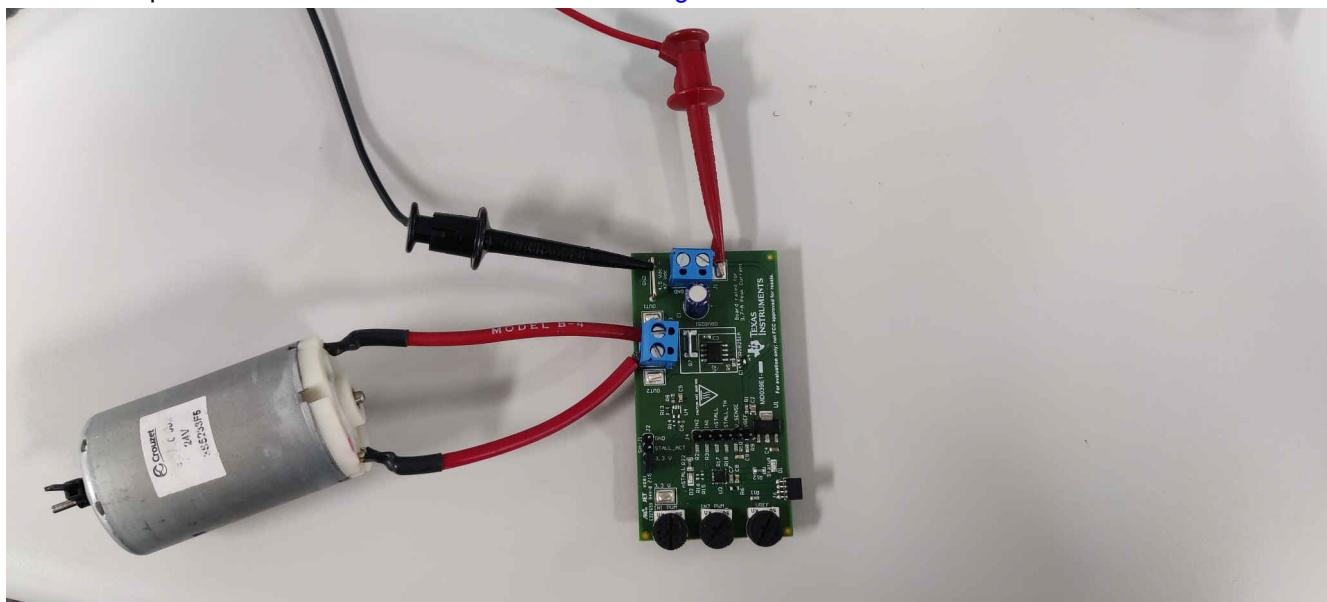

Figure 5-2. Power and Load Connected
6. Disable power and connect load in J3 as shown in Figure 5-2: